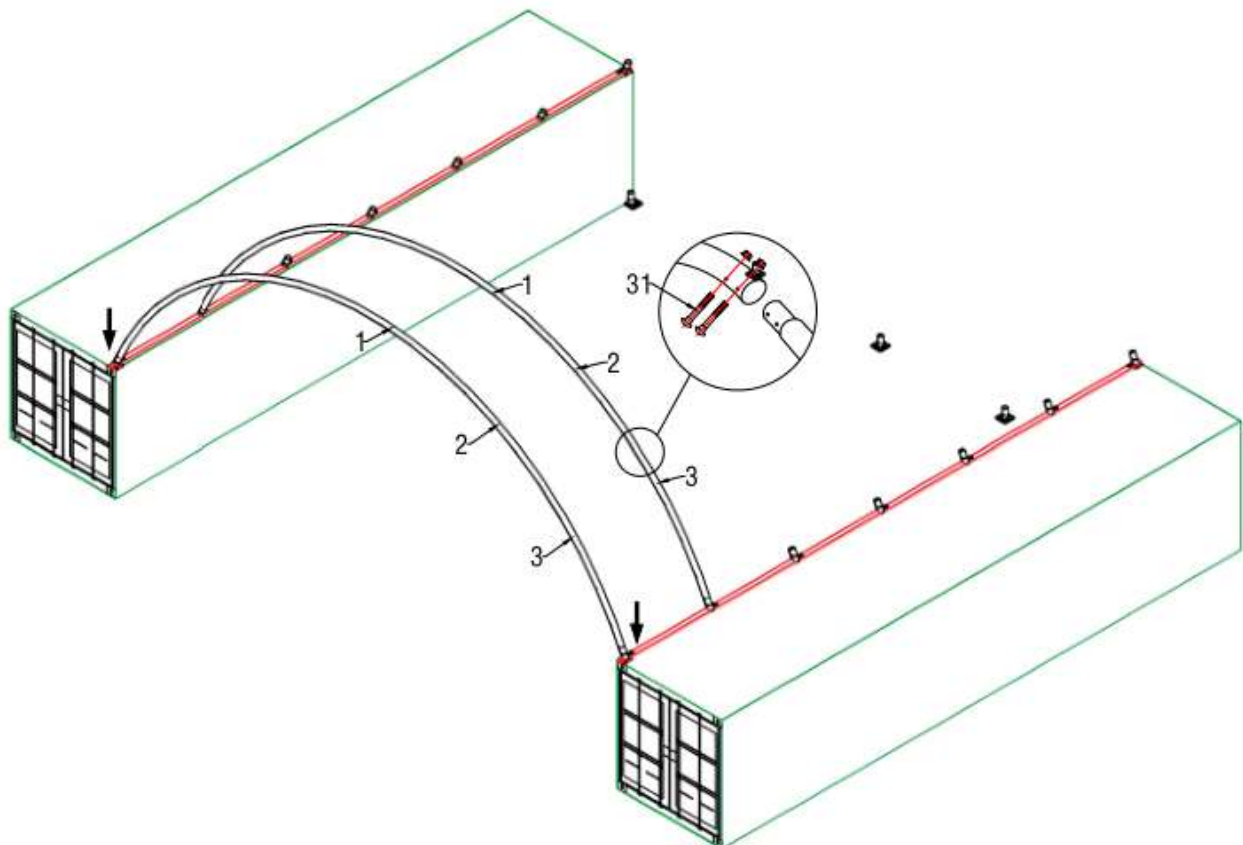

Figure 4
2. Put the first group to insert the base plates as the Figure 4 bellow.